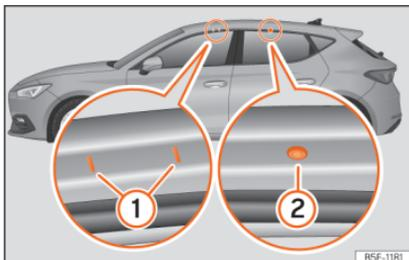

Fig. 142 Mounting points for the roof bars for the roof rack (Leon).
The front and rear attachment points ① and ② are only visible when the doors are open >>> **Fig. 142.**